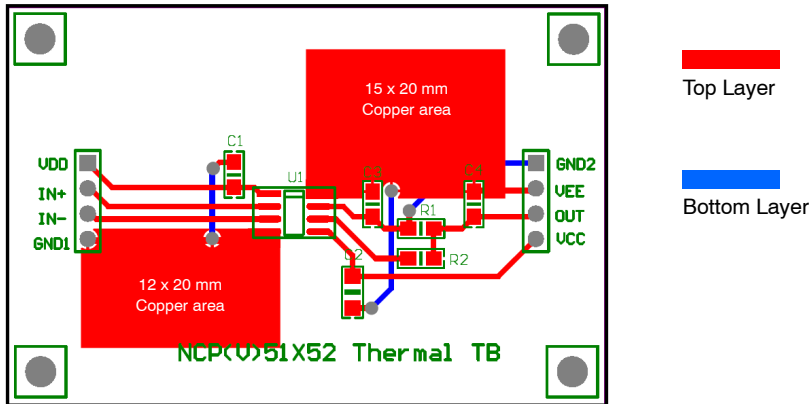

Figure 4. Reference Layout for the Type–A
- As specified for a reference layout shown in Figure 4. The DUT is mounted on a 60 x 40 x 1.6 mm FR4 substrate with an additional heat spreading copper of 240 mm²/300 mm² (Primary/Secondary). The copper thickness is 1 oz and test conditions is under natural convection or zero air flow.